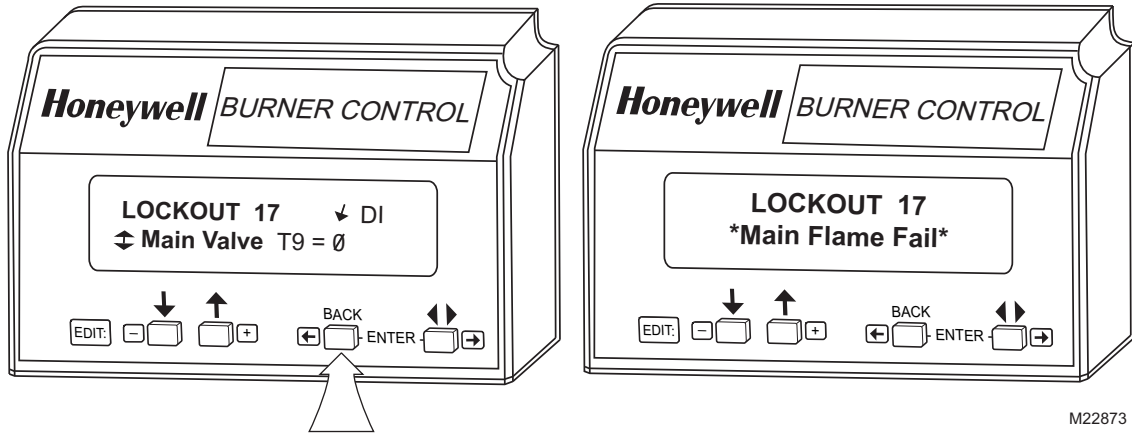

Fig. 12. BACK push-button function.
3. BACK push-button, see Fig. 12. Use the BACK push-button to instantaneously switch the display from a second-line selectable message to a second-line preempted message. The sixty second time-out function can also be used for this task. The BACK push-button only works if there is a second-line preempted message or a lockout message.